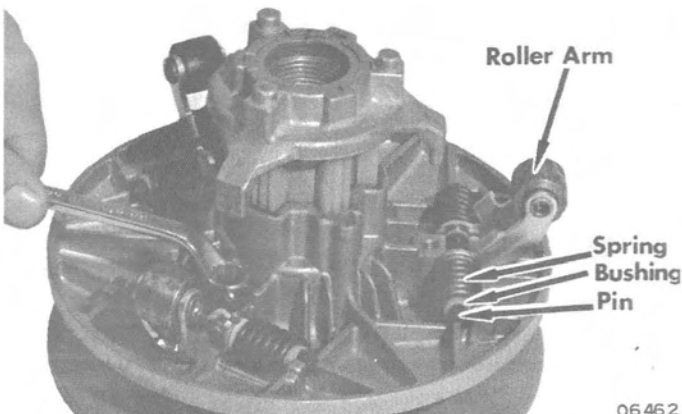

Figure 6. Removing Roller Arms
3. Flatten locktab (located under pin retaining screw) (Figure 6) and remove screw, lockplate and retainer.